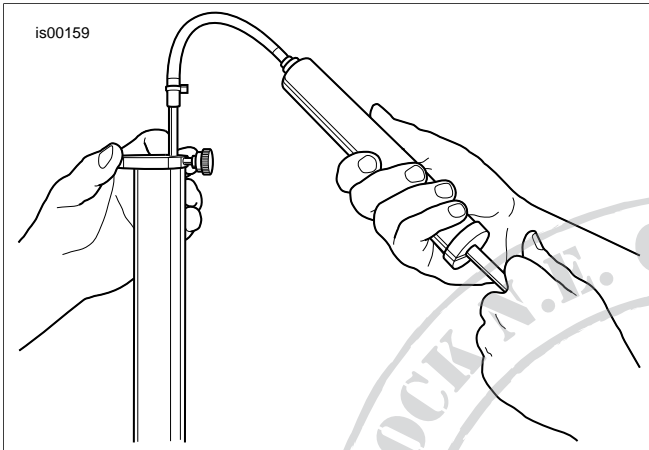

Figure 3. Remove Excess Fork Oil
- d. See Figure 3. Insert rod into top of fork tube until metal ring rests flat on top of fork tube.